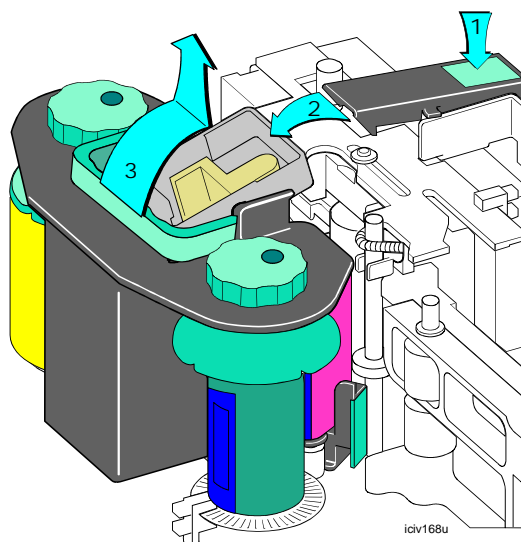

Figure 4-2: Remove the print ribbon cartridge
- 2 Push on the printhead latch to release the printhead cage (step 1 in Figure 4-2).
- 3 Move the printhead cage to the resting position (step 2 in Figure 4-2).
- 4 Using the handle, lift the print ribbon cartridge straight up until the cartridge is above the printhead cage (step 3 in Figure 4-2). Remove the cartridge from the printer.